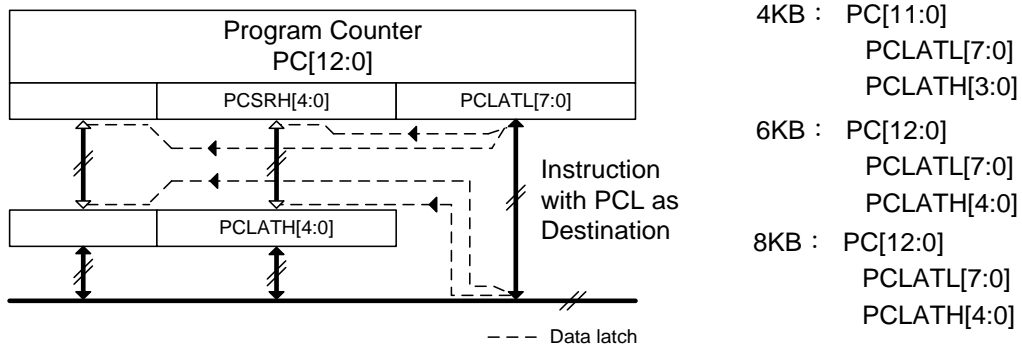

Figure 2-2 Program Counter Frame
Program Counter (PC) includes shift register PCSR and buffer register PCLAT, as Figure 2-2 implicated.